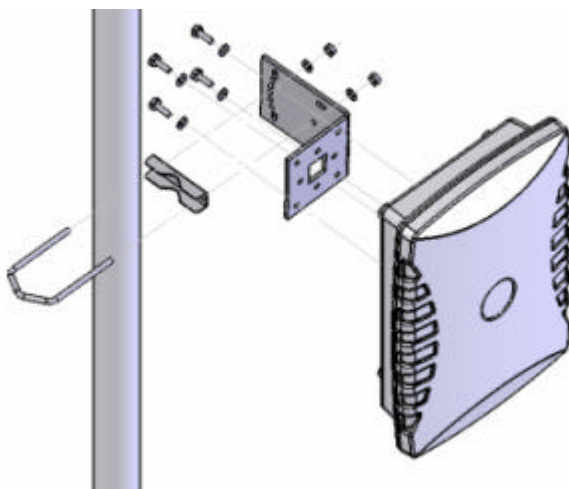

Figure 8. Mast mounting
- Attach the L bracket to the antenna by means of the four M6 x 16mm bolts provided. The figure 8 illustrates this for vertical polarisation.
- Attach the enclosure to a mast (diameter 40-50mm) using the Econo-bracket assembly as shown in figure 8.